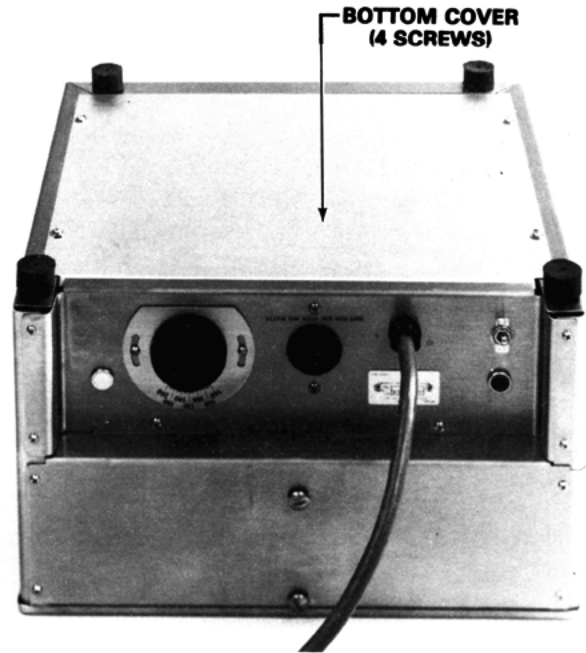

Figure 1
6. Unscrew and remove the bottom cover. (See Figure 1)